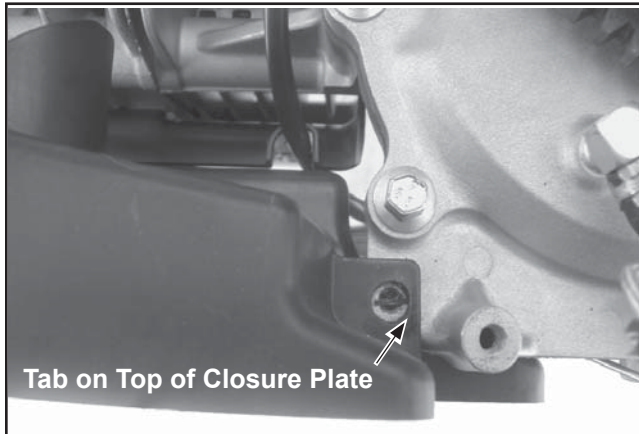
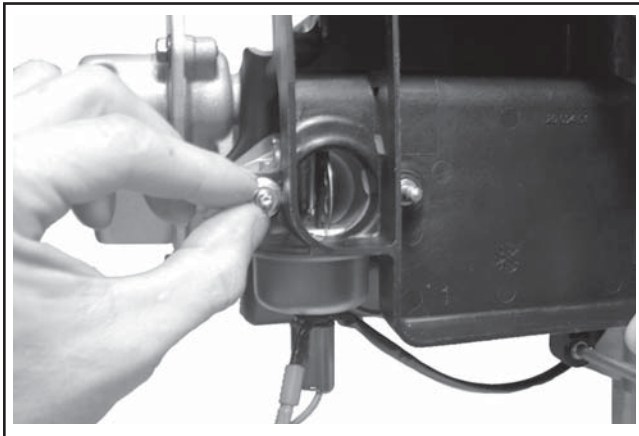

Figure 10-64. Air Cleaner Base Upper Mounting Tab Details.
Figure 10-65. Installing Air Cleaner Base.
- a. Install a new air cleaner base gasket. Check that the two metal spacers are in the air cleaner base mounting holes and install the base onto the stud(s), and or alignment pin. Make sure the upper mounting tab is positioned above the closure plate boss. See Figure 10-64. Install the hex flange nut(s) and finger tighten See Figure 10-65.